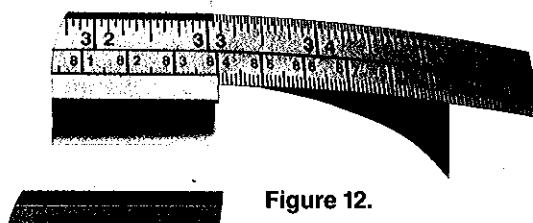

Figure 12.
7. The scale in the **Squaring Arm** is shipped with pressure sensitive adhesive on the underside. Slide the scale out to the right about one foot. Peel off about 4" of the protective paper from the adhesive and slide the scale back to the left, but do not set the adhesive yet. (See Fig. 12).